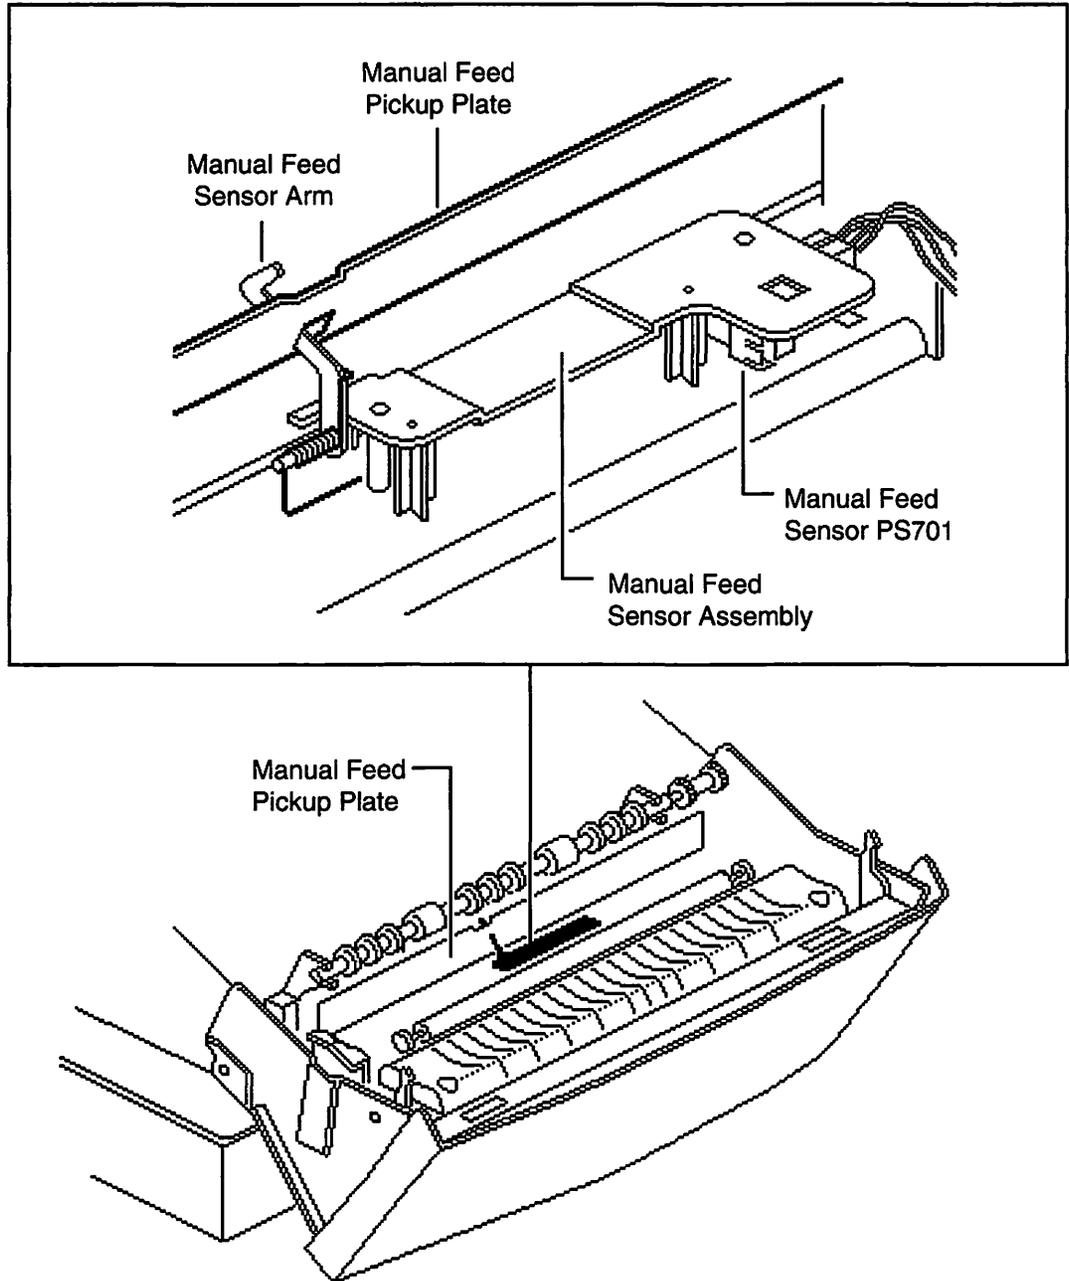

Figure 1-11
- The manual feed sensor PS701 (see Figure 1-11), when activated by the manual feed sensor arm, detects the presence of paper on the manual feed tray. The manual feed sensor assembly, which contains the manual feed sensor PS701 and the manual feed sensor arm, is located above the manual feed pickup plate which guides the sheet of paper picked up from the manual feed tray into the printer.